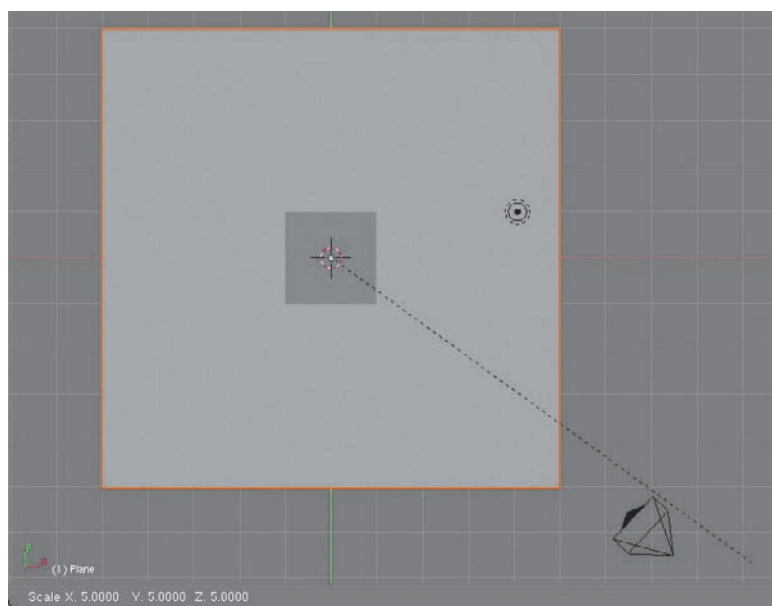

Figure 6.3 Add a plane and scale up.
1. Add a plane and scale up as shown in Figure 6.3.